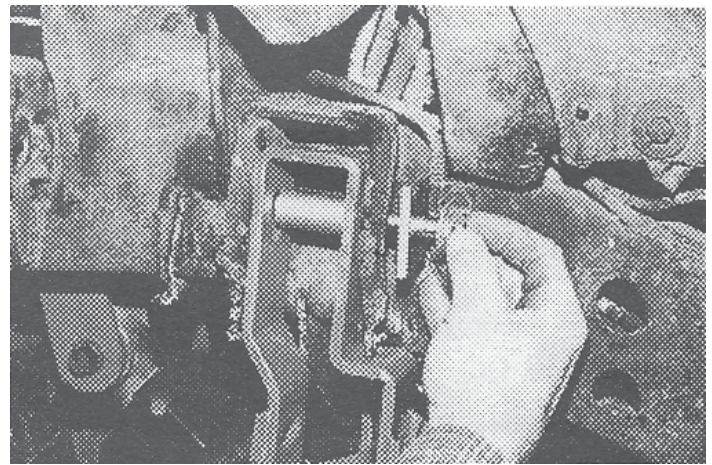

Fig. 31
30. Install bracket "LR" in DVR side upper rear OE control arm receiver. Use 1/2" x 4" bolt, washers, nuts, tabs "LP", and 1-11/16" sleeve provided. Note: "LP" fits one way into OE D-bolt adjustment tab. Reaming center of OE "D" slots will ease installation of cross bolt. **Do not tighten fasteners at this time.** **Fig. 31.** Repeat on PASS side using bracket "RR".